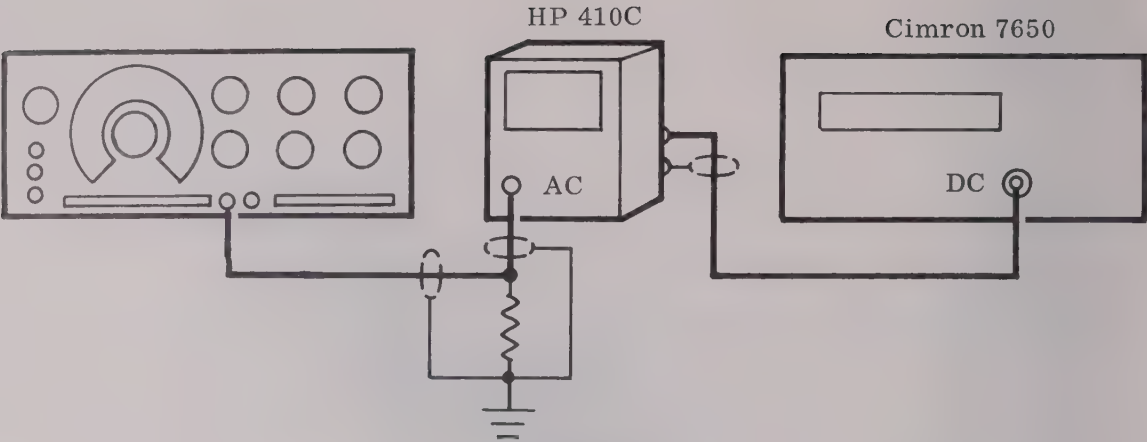

FIGURE 3-9
17. Interconnect the equipment as shown in Figure 3-9, observing signal and ground connections carefully.